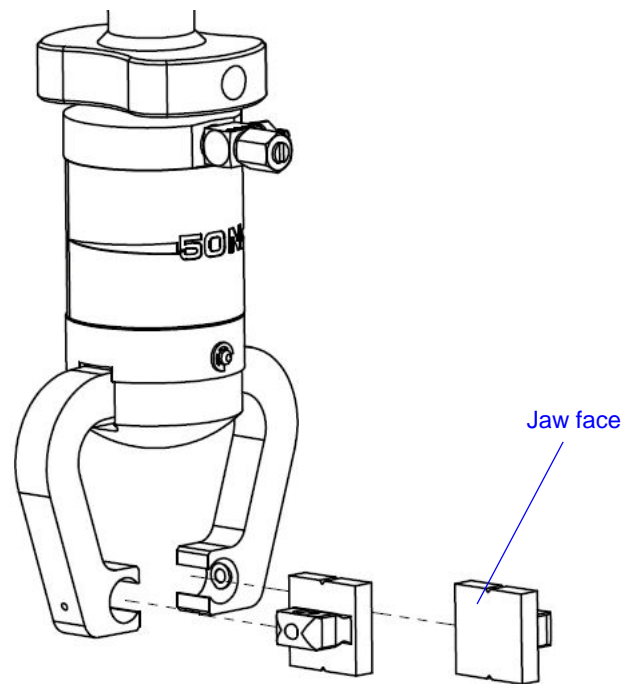

Figure 3-2. Installing Jaw Faces
2. Push the jaw face into the grip body as shown in Figure 3-2 on page 3-3 until you feel it locate in the socket.